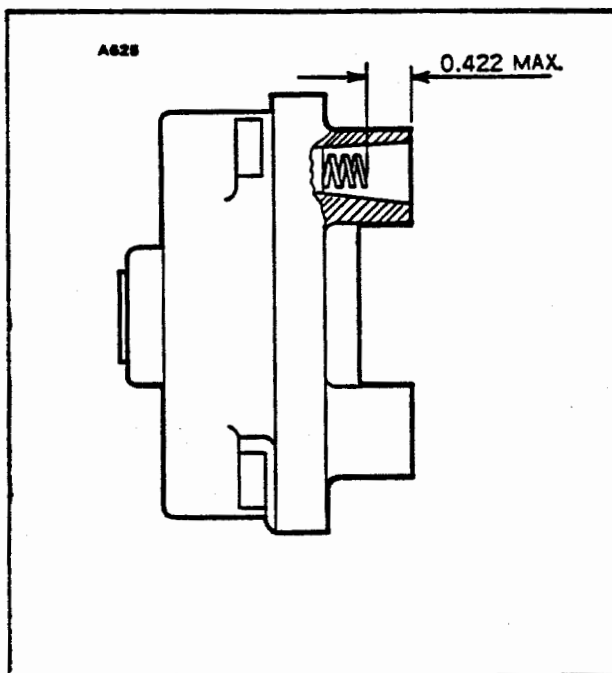

Figure 8-15. Contact Spring Inspection
1. Inspect distributor block contact springs. Top of spring must not be more than .422 inches below top of tower as shown in Figure 8-15. If broken or corroded, they should be replaced.